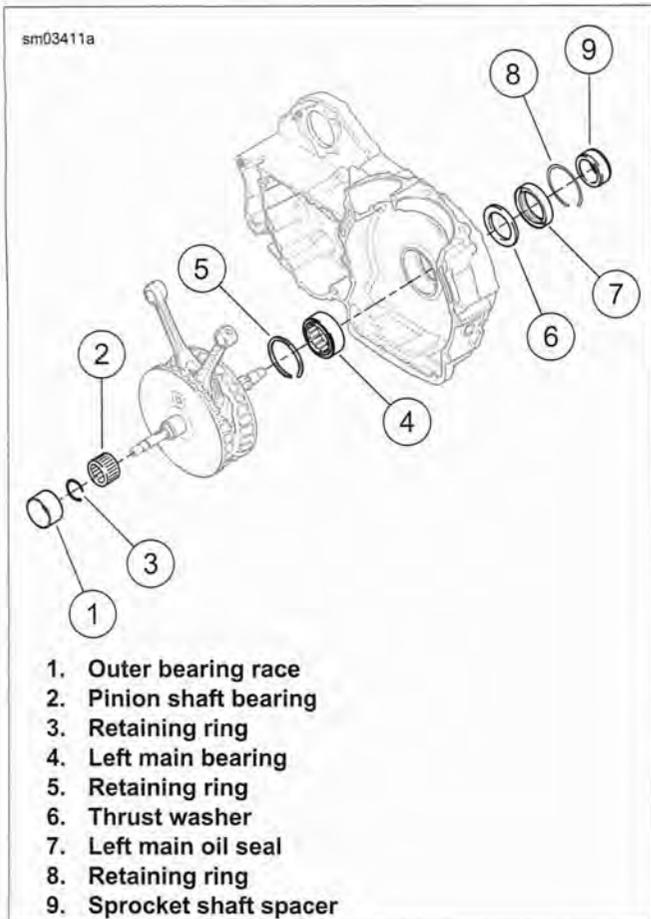

Figure 3-142. Pinion Shaft and Left Main Bearings
- See Figure 3-142. Lubricate pinion shaft and pinion shaft bearing (2) with SCREAMIN' EAGLE ASSEMBLY LUBE (Part No. 94971-09).